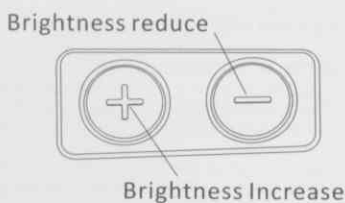

Fig 5
1. **Switch on (see Fig5)** : Press and release either brightness button ("+" or "-") to turn on the sight.